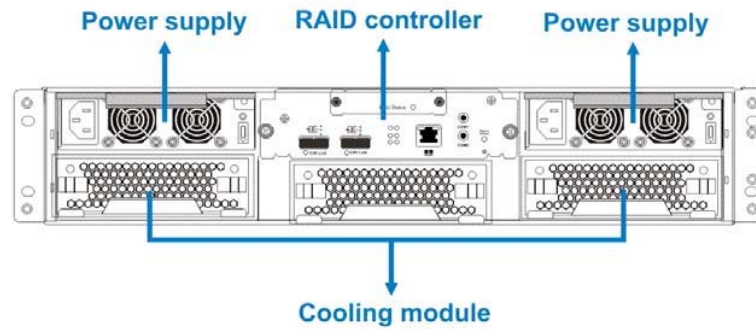

Figure 1-4: Falcon III Enclosure Rear View
The subsystem is equipped with two (2) redundant, hot-swappable, 350W PSUs, which are located at the enclosure's rear section. (See **Figure 1-4**) The PSU is permanently mounted into a 2U canister especially designed to contain both the PSU and a cooling module. If the PSU is removed, the cooling module is also removed.